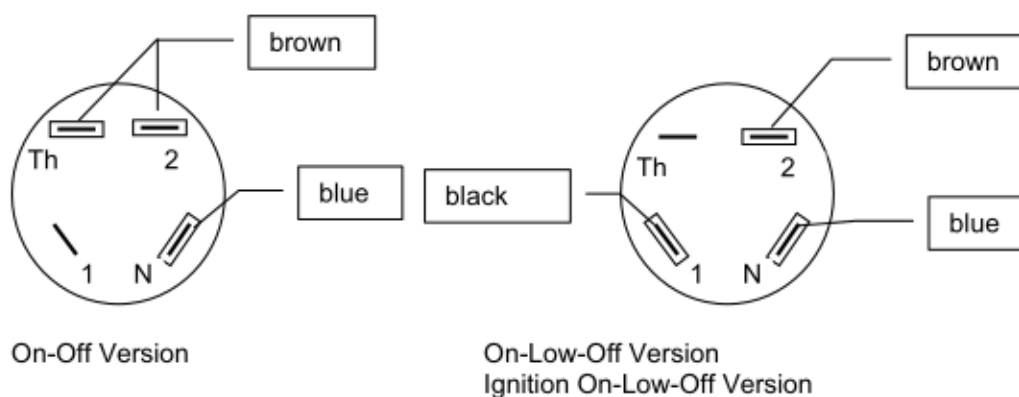

Figure 6: Flat plug connector
- Connect the flat plugs of the new terminal box to the plug connector in accordance with Figure 6. Please note that the Th and 2 pins are towards the front and the 1 and N pins are towards the back of the terminal box.